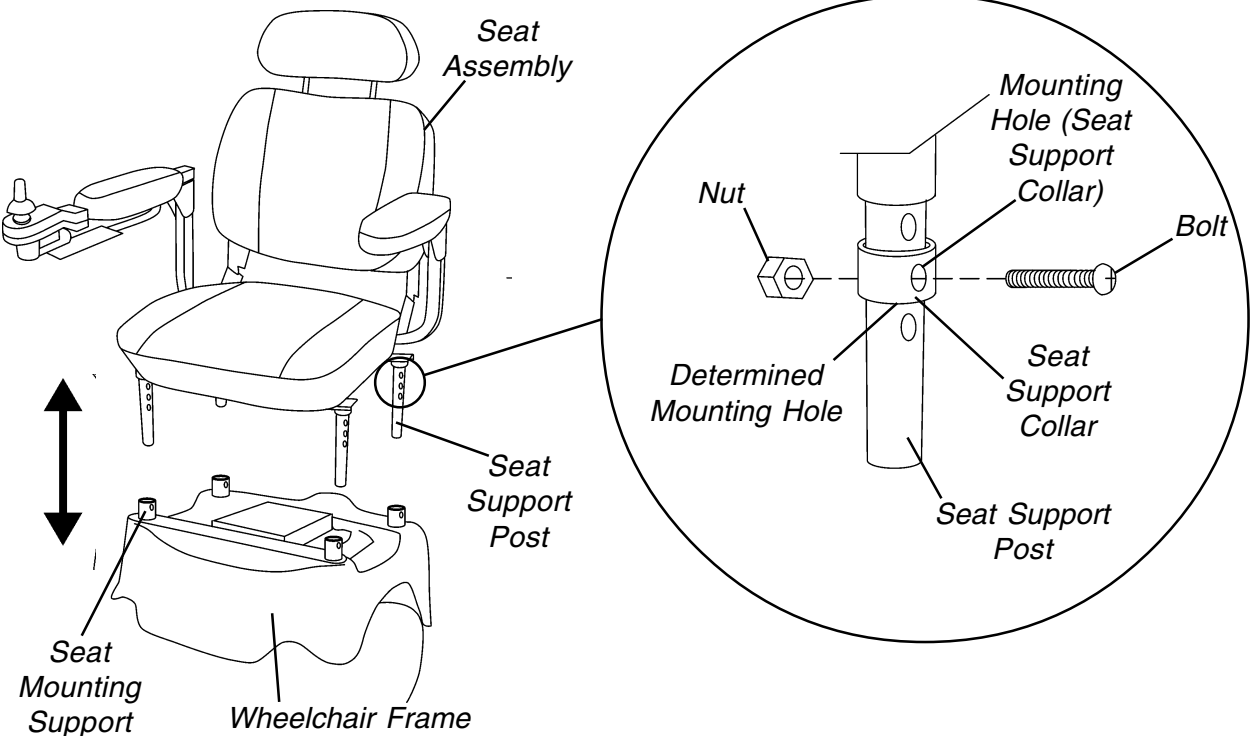

FIGURE 1 - REMOVING/INSTALLING SEAT SUPPORT COLLARS
**REMOVING/INSTALLING SEAT SUPPORT COLLARS (FIGURE 1)**
2. Position one (1) seat support collar over one (1) seat support post.
5. Install one (1) nut and bolt through mounting hole in the seat support collar and through the mounting hole in the seat support post determined in STEP 2. Securely tighten.
6. Repeat STEPS 2-5 for the three (3) remaining seat support posts.